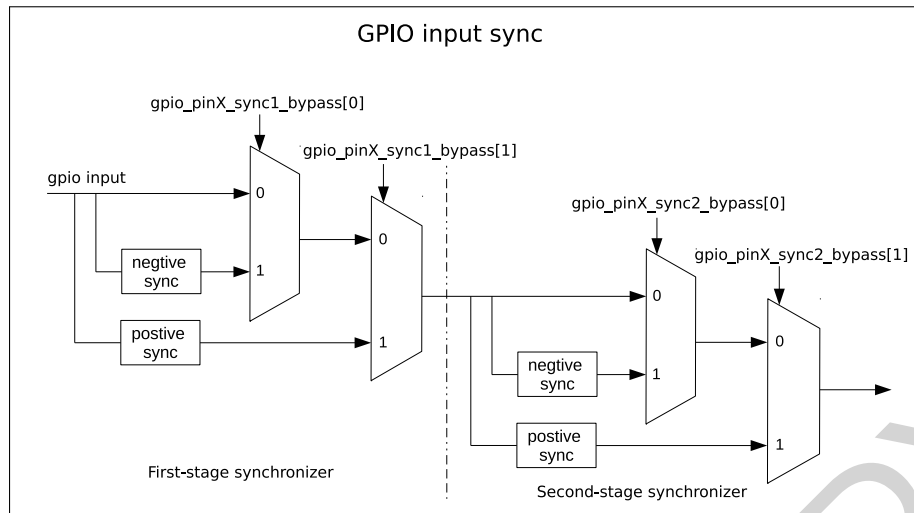

Figure 5-4. GPIO Input Synchronized on APB Clock Rising Edge or on Falling Edge
Figure 5-4 shows the functionality of GPIO SYNC. In the figure, negative sync and positive sync mean GPIO input is synchronized on APB clock falling edge and on APB clock rising edge, respectively.
- Set `GPIO_PIN $x$ _SYNC1_BYPASS` to enable input signal synchronized on rising edge or on falling edge in the first clock, see Figure 5-4.
- Set `GPIO_PIN $x$ _SYNC2_BYPASS` to enable input signal synchronized on rising edge or on falling edge in the second clock, see Figure 5-4.